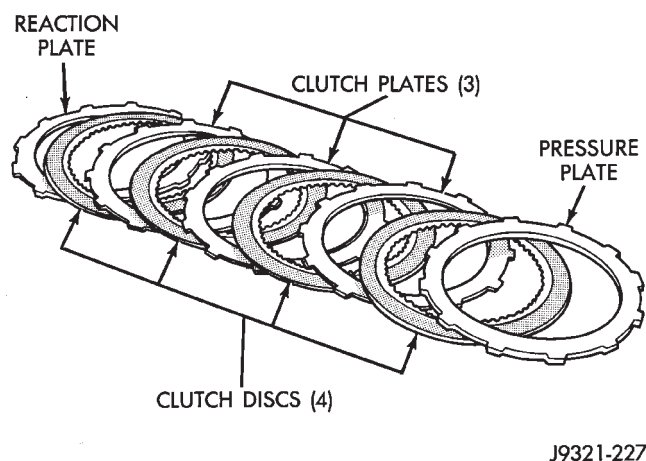

Fig. 245 46RE Overdrive Clutch Components
(3) Assemble overdrive clutch pack (Fig. 245).